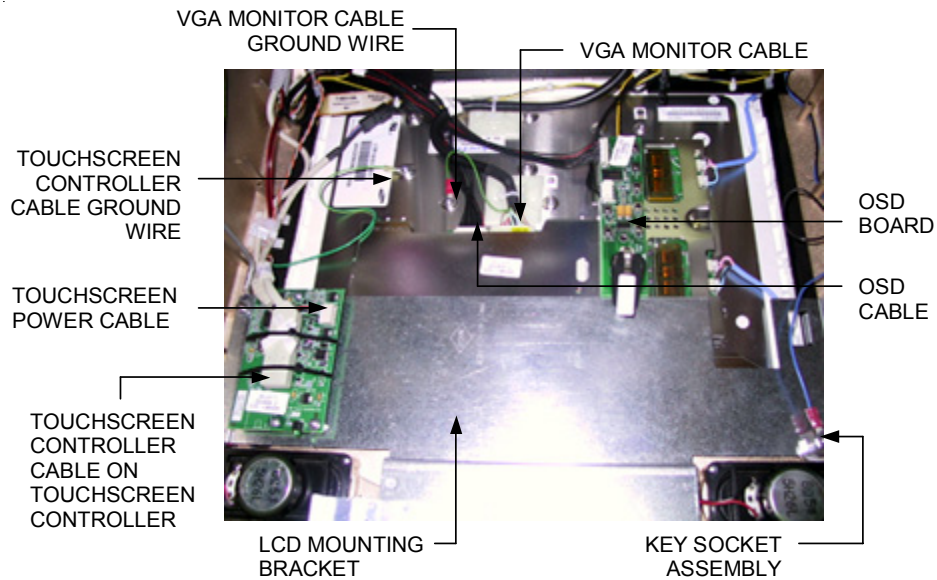

FIGURE 32 - CLOSEUP OF CPU SECTION
3. Remove the screw and washer fastening the strain relief cord, then remove the remaining 5 screws fastening the LCD mounting bracket to the game. The key socket ground wire will also be removed in the process. See Figure 32.
4. Remove the nut, wire and bolt from the key socket assembly located on LCD mounting bracket, then remove the bracket. See Figure 32.
5. Carefully cut the tie wraps around the VGA monitor cable, remove the ground wire and disconnect the cable from the monitor. See Figure 32.
6. Remove the OSD cable from the twist clamp and disconnect it from the OSD board and the monitor. Then remove the OSD board from the Velcro attached to the hinge and set it aside. See Figure 32.
8. Carefully cut the tie wrap around the touchscreen controller cable and disconnect the cable from the touchscreen controller. Also remove the ground wire. See Figure 32.
9. Disconnect the touchscreen power cable from the touchscreen controller (see Figure 32), then disconnect the Molex connector identified by the orange and gray wires.
18. Replace the LCD mounting bracket in the game and fasten it with the 6 screws removed earlier. Also refasten the strain relief cord and the key socket ground wire. See Figure 32.
19. Replace the key socket assembly by securing the bolt, green wire and nut over the LCD mounting plate. See Figure 32.
20. Connect the touchscreen controller cable to the touchscreen controller and secure it with a tie wrap. Also restore the touchscreen controller cable ground wire. See Figure 32.
23. Reattach the OSD board to the Velcro on the hinge, then connect the OSD cable to both the OSD board and the monitor. See Figure 32. Secure the cable in the twist clamp.
24. Connect the VGA cable to the monitor and secure it with tie wraps. Also replace the ground wire. See Figure 32.